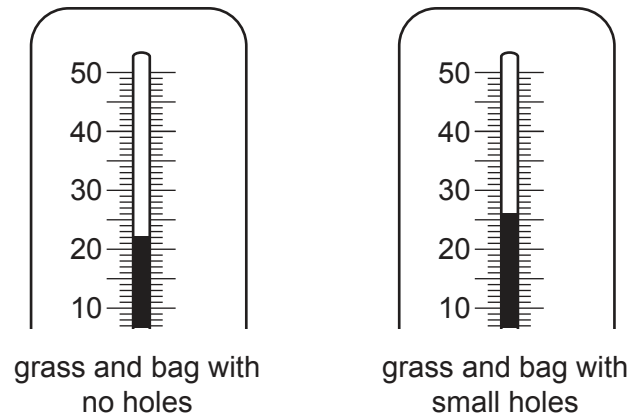

Fig. 1.1
The thermometers are shown in Fig. 1.1.
- (i) Determine the difference in the temperatures measured by the two thermometers shown in Fig. 1.1.